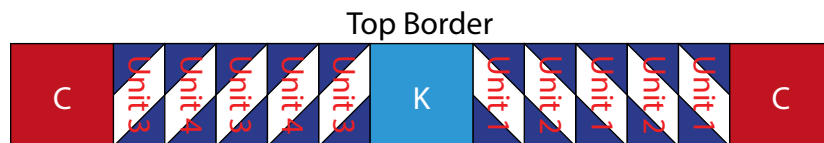

Fig. 11
8. Follow Figure 11 and sew together (2) 6 ½" Fabric C squares, (3) Unit 3 strips, (2) Unit 4 strips, (1) 6 ½" Fabric K square, (3) Unit 1 strips and (2) Unit 2 strips to make the Top Border.